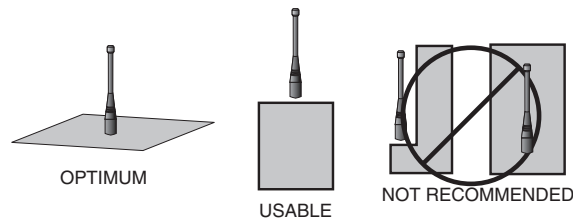

Figure 38: Ground Plane Orientation
2. Optimum performance is obtained from a $\frac{1}{4}$ - or $\frac{1}{2}$ -wave straight whip mounted at a right angle to the ground plane (Figure 38). In many cases, this isn't desirable for practical or ergonomic reasons, thus, an alternative antenna style such as a helical, loop or patch may be utilized and the corresponding sacrifice in performance accepted.